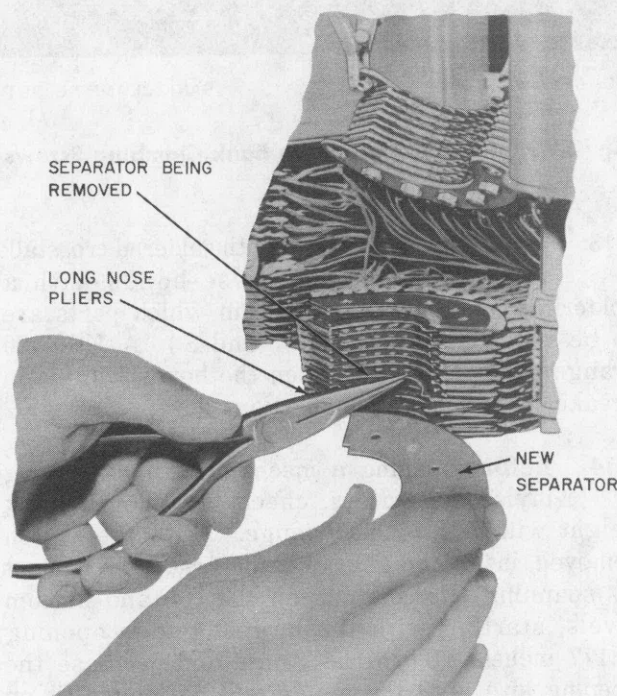

Fig. 9—Method of Pulling Separator Forward
3.20 With the KS-6320 orange stick, slightly shift the separator to be replaced to a position where it may be grasped with the B long-nose pliers. If any bank contacts are still stuck to the separator, repeat the operation described in 3.19 until the separator is free. Grasp the separator to be replaced near the center with the pliers and pull it gently forward until it is approximately half way out of the bank, as shown in Fig. 9.